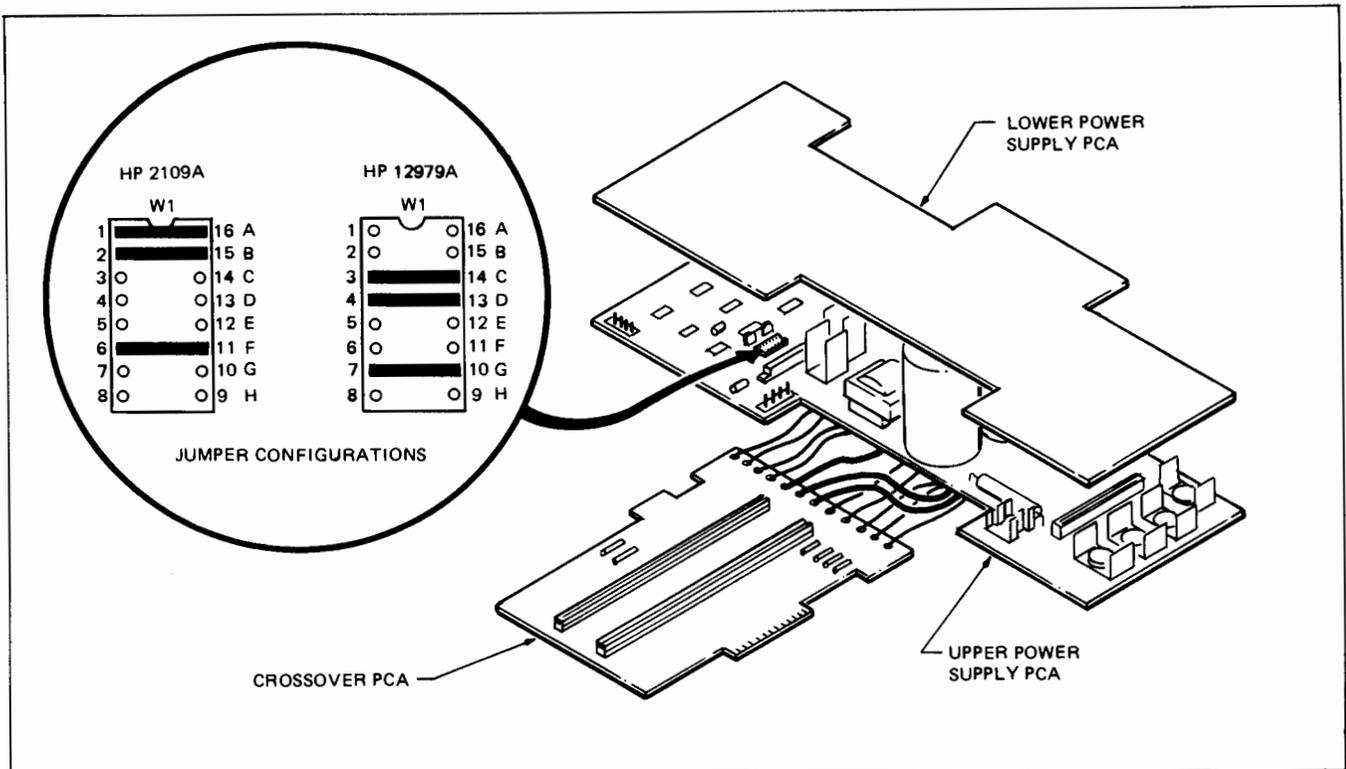

Figure 2-9. Power Supply Jumper Configurations
**2-45. REPLACEMENT.** The HP 2109A Computer and the HP 12979A I/O Extender employ identical power supplies and differ only in jumper configurations. If installing a replacement power supply, ensure that the jumpers located on the component side of upper power supply PCA are configured as required for the HP 2109A Computer. (See figure 2-9.) After configuring the power supply jumpers, replace power supply in the reverse order of the removal procedure. Attach the crossover PCA to the upper power supply PCA as shown in figure 2-8.